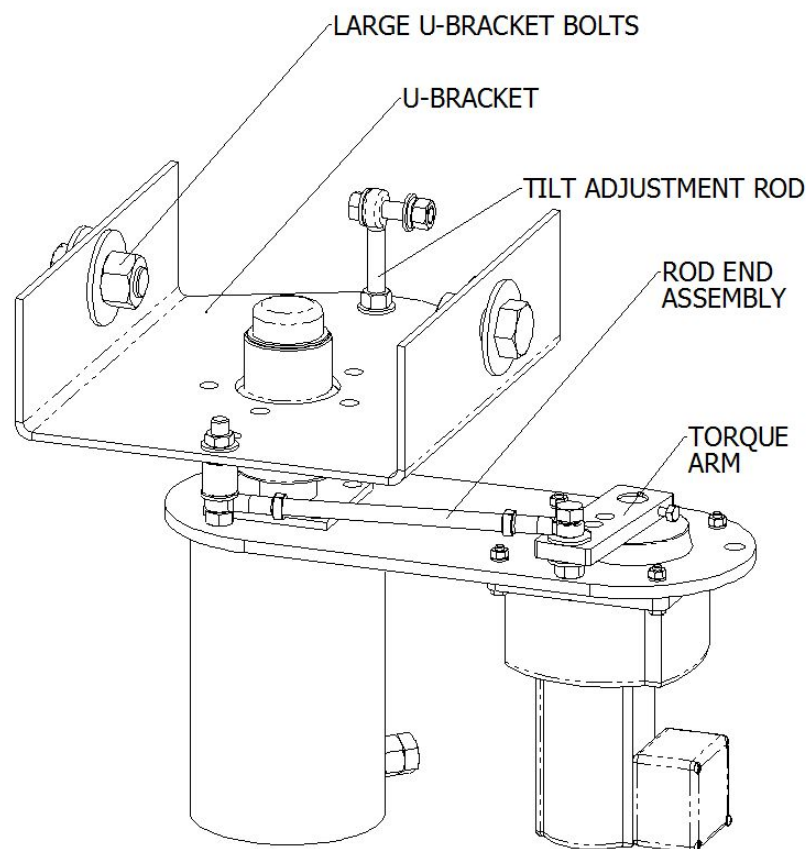
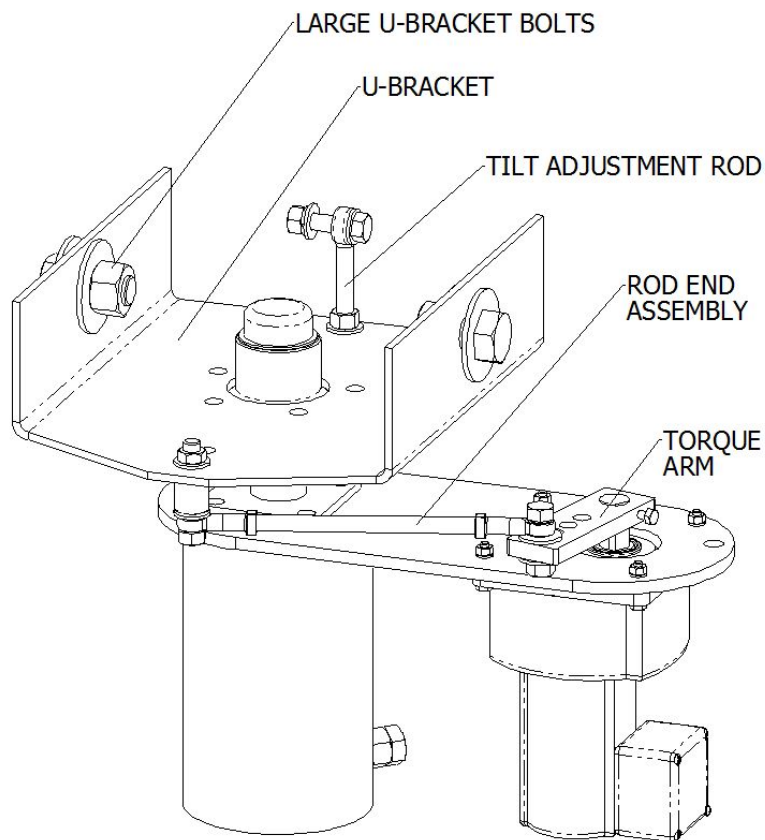

Figure 1: TB-50 Oscillating Assembly
Figure 2: TB-30 & TB-36 Oscillating Assembly
- 3) Lift the fan and remove the (2) large U-Bracket bolts holding it to the crate. Position the oscillating base assembly, and re-install the large U-Bracket bolts through the base tabs on the fan housing. Fasten the tilt adjustment rod to the tilt tab on the bottom of the fan and install the rod end assembly as shown in Figure 1 for TB-50 models and Figure 2 for TB30 and TB 36 applications.